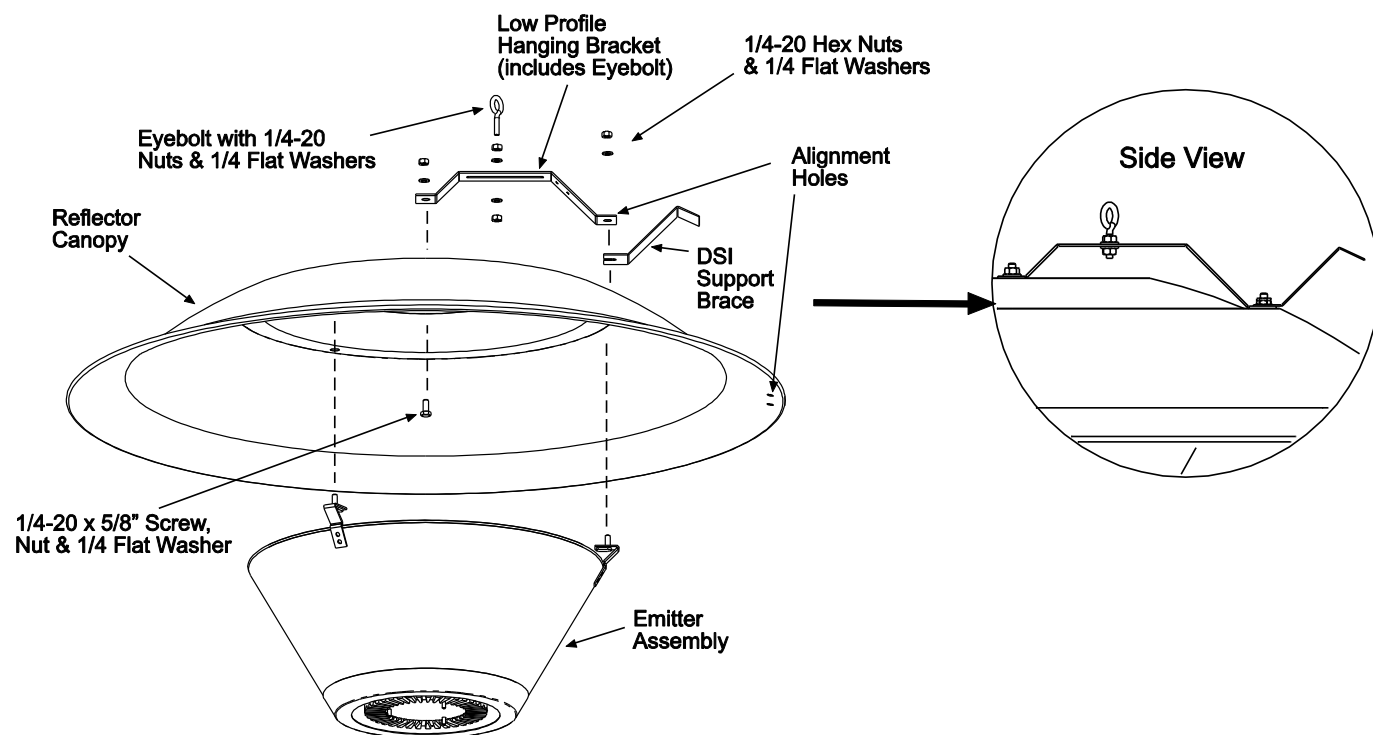

FIGURE 1
2. Place the Low Profile Hanging Bracket onto the Canopy as shown. Secure the bracket to the center of the Canopy with a 1/4-20 screw, nut and washer from the Fastener Kit. Assemble the eyebolt to the hanging bracket with nuts and washers. Align the hanging bracket with the two (2) holes located at the edge of the Canopy. See Figure 1.
4. Place the Canopy over the Emitter Assembly so that the mounting studs pass through the three (3) holes in the Canopy and the hole in the hanging bracket. Slide the DSI support brace under the hanging bracket. Secure the Canopy, the hanging bracket and DSI support brace to the mounting studs using nuts and flat washers as shown. See Figure 1.